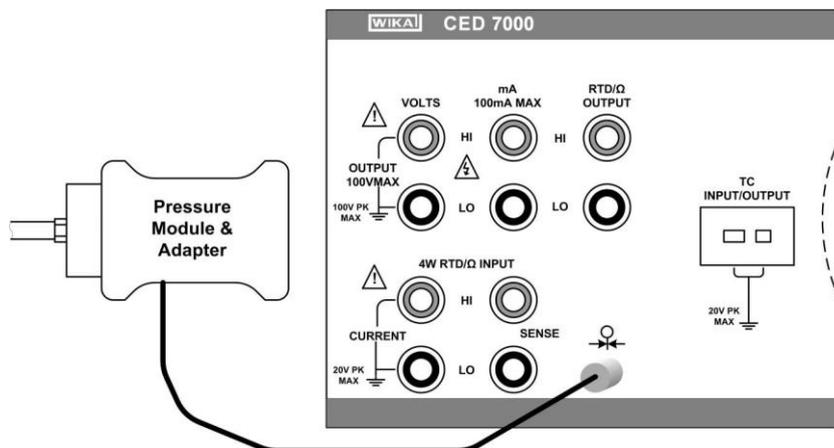

Figure 16 - Pressure Module Connection
- a) Connect the pressure module to the CED 7000 as shown in figure 16.